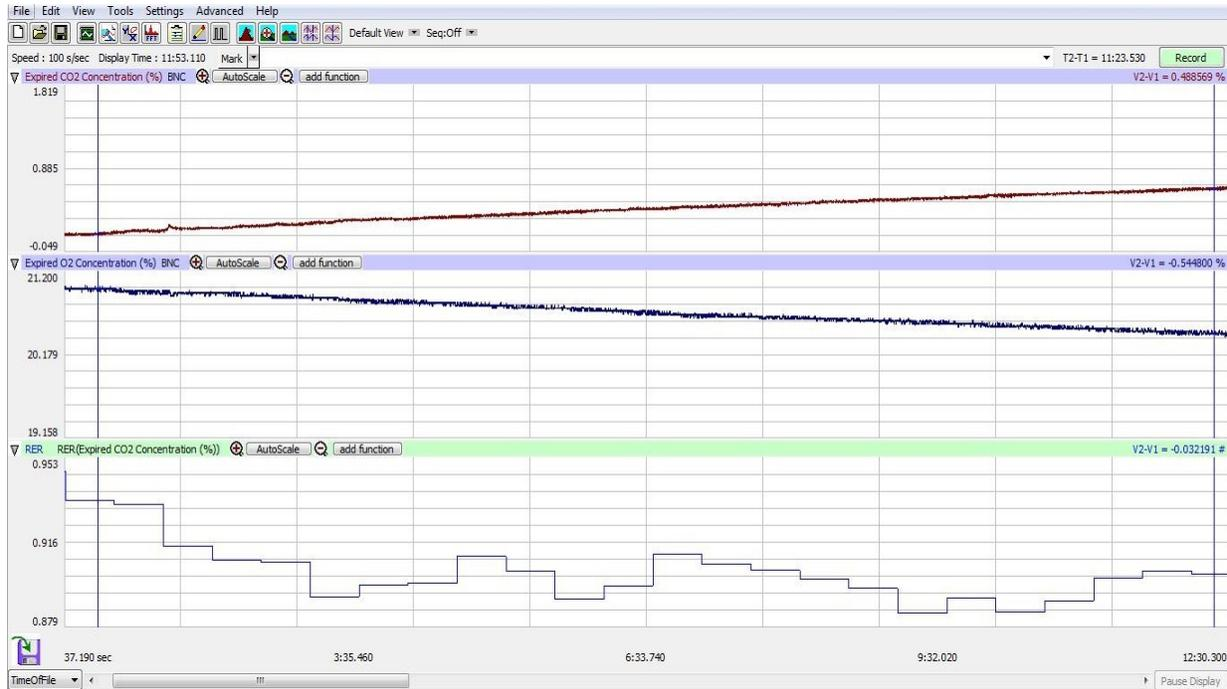

Figure AMe-8: The RER channel showing the histogram for the ratio of CO₂ to O₂ in the endothermic organism.
4. Click on RER Expired CO₂ Concentration (%) on the RER channel. Choose Setup Function from the drop down list. This will open the RER Calculation Dialog window (Figure AMe-8).